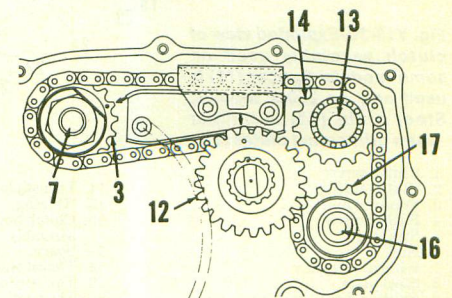

Fig. Y19-26—View of timing marks for installation counterweight drive chain on SC500 models. Refer to text for installation procedure.
Counterweight drive chain on SC500 models may be installed as follows: Install counterweight sprocket (3—Fig. Y19-26) then turn it to align punch mark with pointer cast into engine case. Install primary drive gear (12) with punch mark on gear aligned with